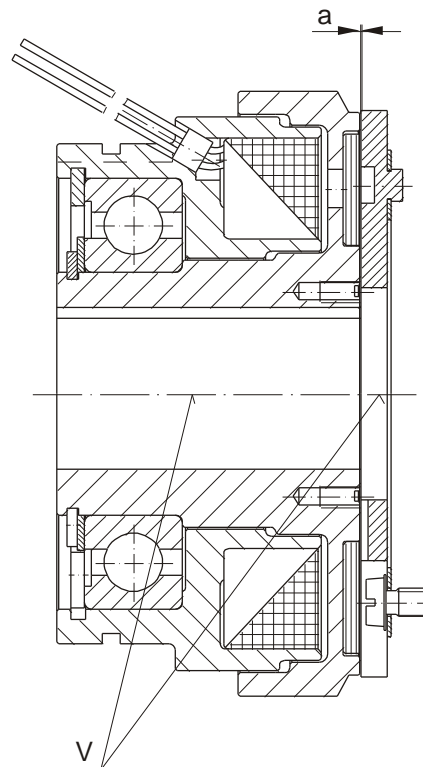

Fig. 6
The mounting parts, such as the shafts or flanges, are to be mounted and secured so that no axial backlash is possible and so that the specified dimension "a" (air gap between the rotor (1 or 2) and the armature disk (9)) acc. Table 1 is maintained. Axial backlash on the mounting parts alters dimension "a" and can lead to the rotor (1 or 2) rubbing against the armature disk (9). Additionally, please observe the permitted center offset "V" of the mounted parts on Type 540.100 (see Fig. 6 and Table 1).